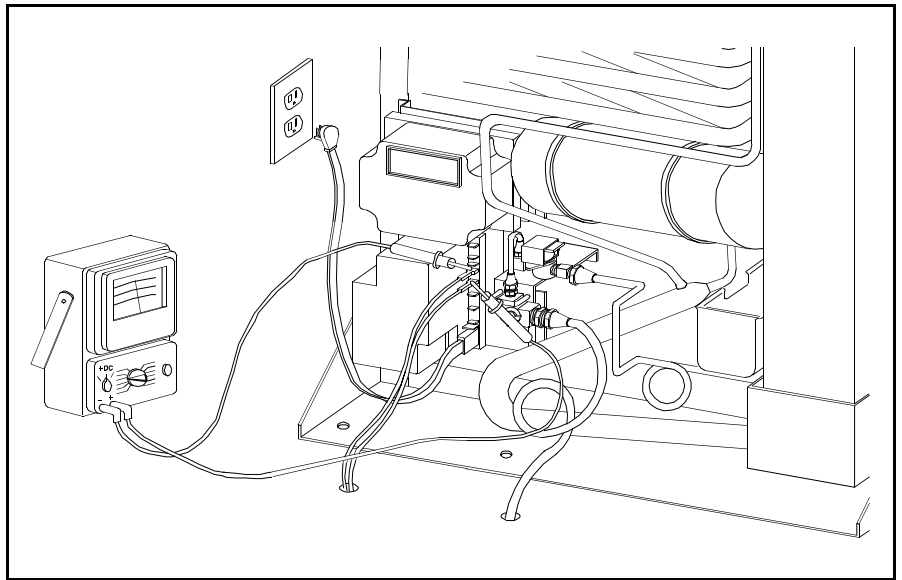

Figure 5.42 12 Volt DC Supply Check
3. Check the 12 volt DC input to terminals J4 and J5 as shown in Figure 5.42. If you do not have +12 volts, repair the 12 volt supply.